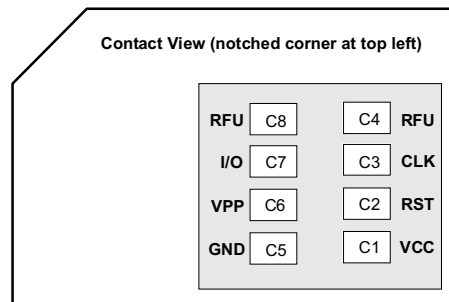

Figure 3-4: SIM card contacts (contact view)
1. See Figure 3-4 on page 31 for SIM card contacts.